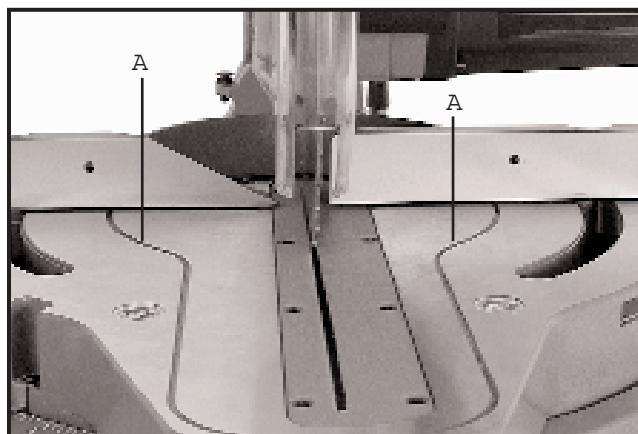

Fig. 21
WARNING: THE AREA INSIDE THE TWO RED LINES (A) FIG. 21, ON THE TABLE IS DESIGNATED AS A HAZARD ZONE. NEVER PLACE YOUR HANDS INSIDE THIS AREA WHILE THE TOOL IS BEING OPERATED.